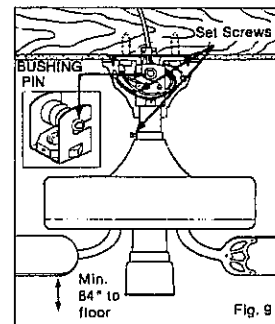

Fig. 9
- D.** Lift the fan by the motor housing, hook the hanger bracket onto the pin in the rubber bushing. **Make sure both ends of the pin are outside the hanger bracket.** See Figure 9. **FAILURE TO PERFORM THESE STEPS IN CORRECT ORDER MAY RESULT IN FAN FALLING.**